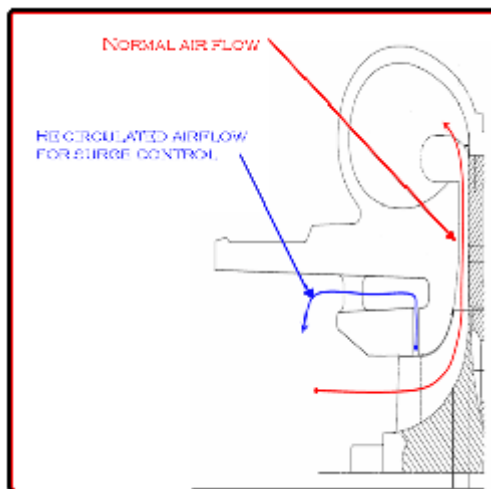
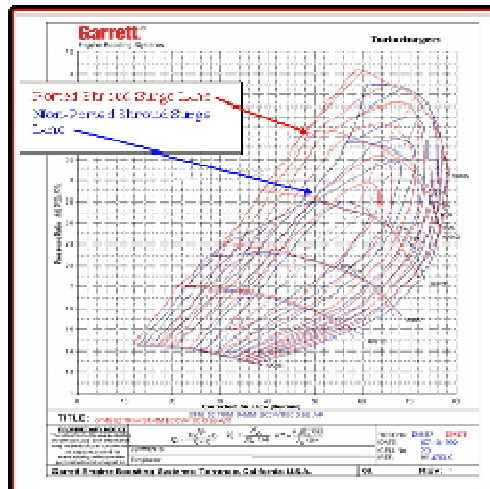

Fig. 2
Fig. 3
- A Ported Shroud compressor (see Fig. 2) is a feature that is incorporated into the compressor housing. It functions to move the surge line further to the left (see Fig. 3) by allowing some airflow to exit the wheel through the port to keep surge from occurring. This provides additional useable range and allows a larger compressor to be used for higher flow requirements without risking running the compressor into a dangerous surge condition. The presence of the ported shroud usually has a minor negative impact on compressor efficiency.